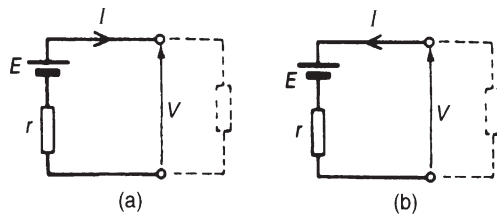

Figure 13.31
- (iii) For the circuit shown in Fig. 13.31(a) representing a practical source supplying energy,  $V = E - Ir$ , where  $E$  is the battery e.m.f.,  $V$  is the battery terminal voltage and  $r$  is the internal resistance of the battery (as shown in Section 4.6). For the circuit shown in Fig. 13.31(b),